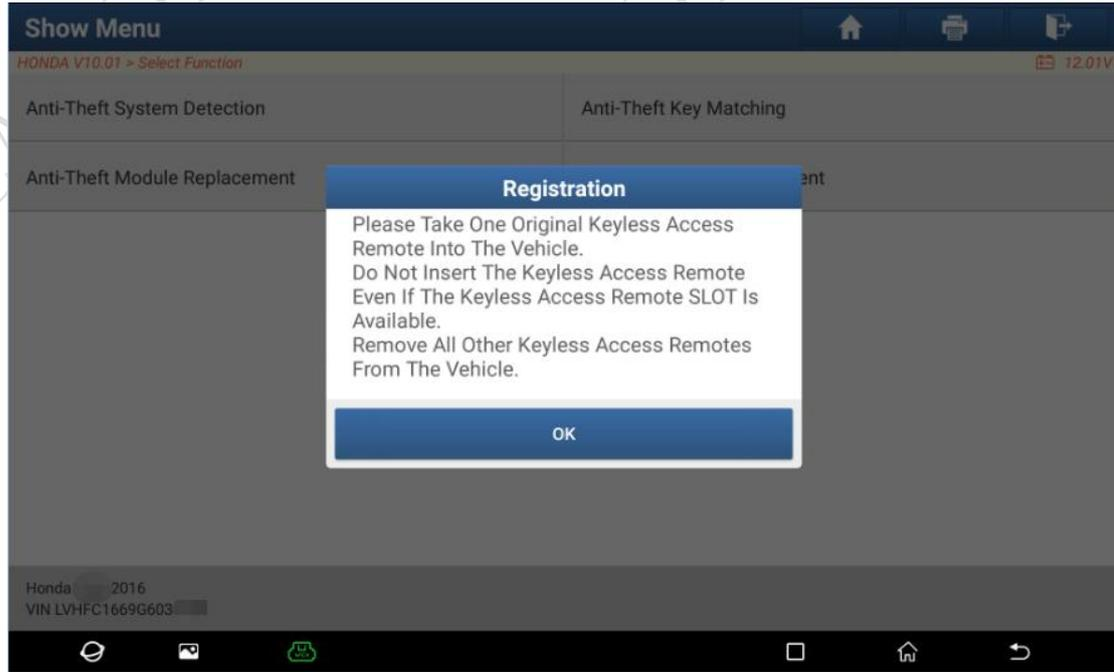

Figure 9
9. Take only one original keyless access remote into the vehicle, and remove all other keyless access remotes from the vehicle, as shown in Figure 9.